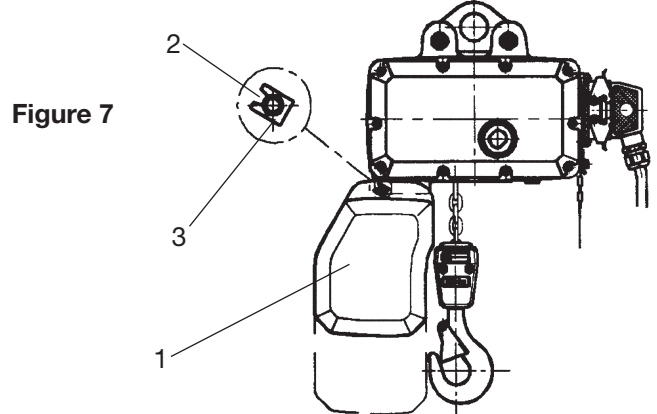

Figure 7
The chain store – **Figure 7, Item 1** – must be fitted before the chain hoist is delivered. Thread the pin (2) through the holes provided in the container and the housing, then secure it by fitting the retaining clips (3) in the grooves machined into both ends of the pin. Remember that the chain store must be assembled correctly otherwise it may constitute a hazard.